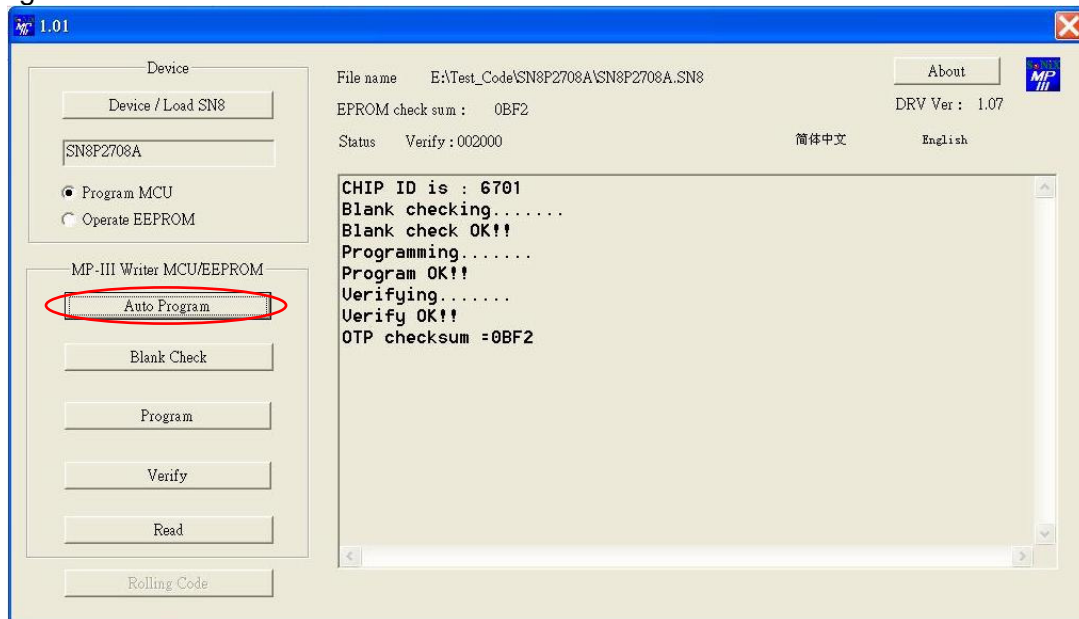

Figure 11 Execute “Auto Program”
- After chip waited for programming deposited to fixture correctly and click “Auto Program” button, writer will execute “Blank Check”, “Program”, “Verify” at once, indication message is shown as figure 11: